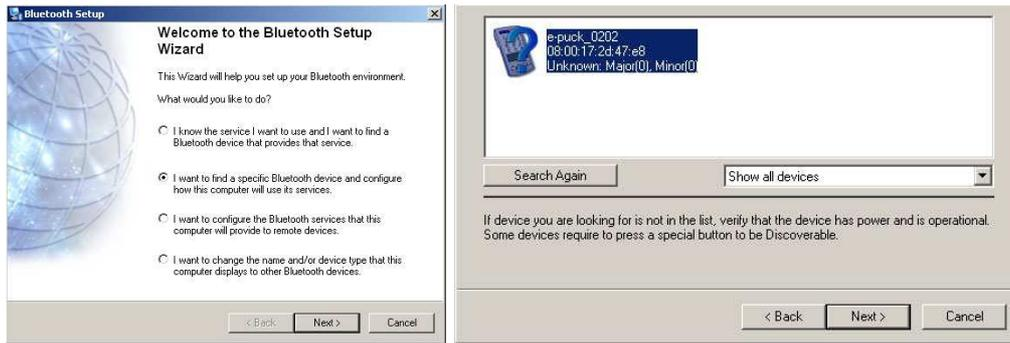

Figure 9: Left: Initial choice on the Bluetooth Setup Wizard. Right: Select your e-puck robot in the bluetooth devices found by your computer.
2. On your computer, please start the Bluetooth Setup Wizard, as shown in figure 9 left.
3. As illustrated in figure 9 right, please choose the e-puck_XXXX device where XXXX is the number of your e-puck. The number is written on the metallic plate under the speaker extension. On figure 9 XXXX means 0202.